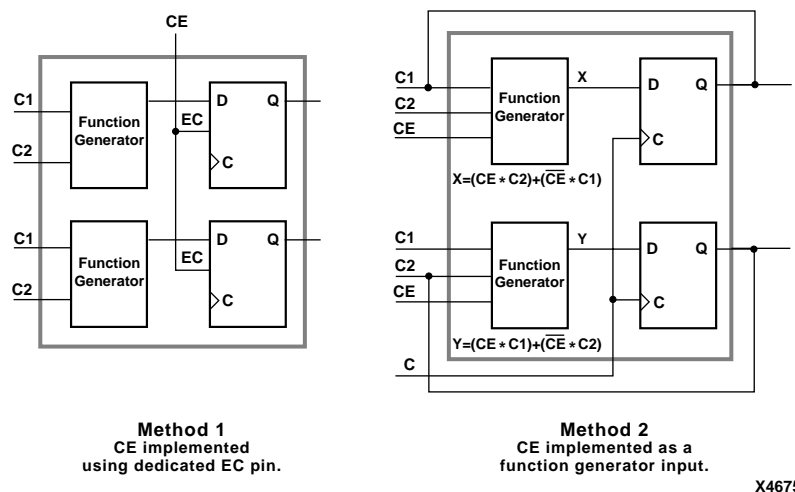

Figure 1-3 Clock Enable Implementation Methods
For FPGA families, the Clock Enable (CE) function is implemented using two different methods in the Xilinx Unified Libraries; both are shown in Figure 1-3.
- In method 1, CE is implemented by connecting the CE pin of the macro directly to the dedicated Enable Clock (EC) pin of the internal Configurable Logic Block (CLB) flip-flop. This allows one CE per CLB. CE takes precedence over the L, S, and R inputs. All flip-flops with asynchronous clear or preset use this method.